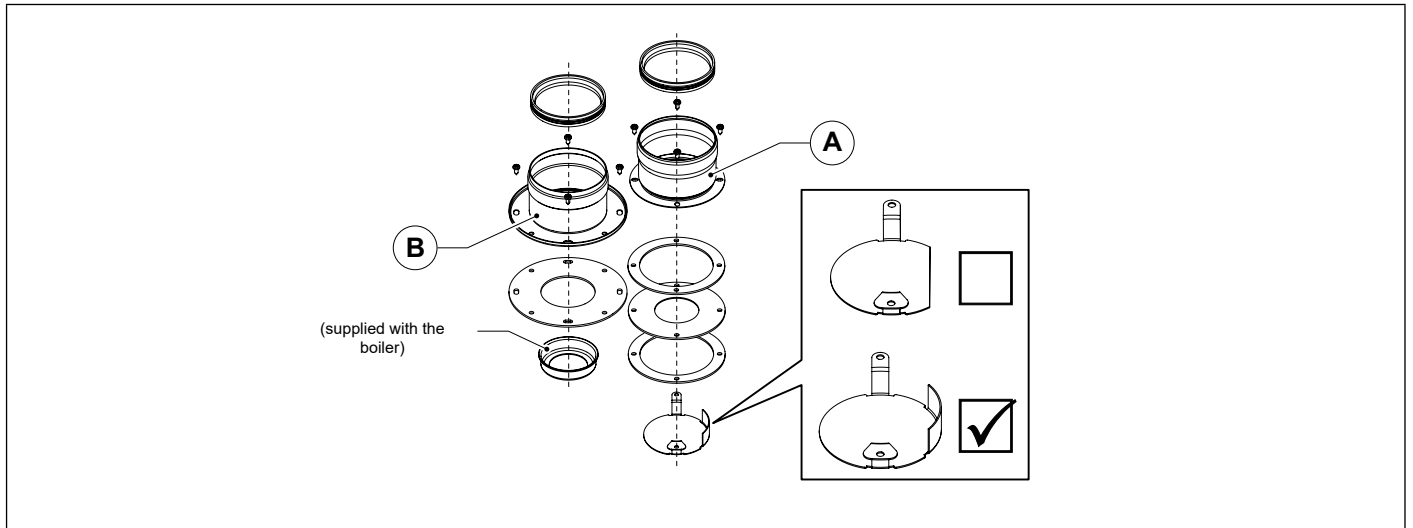

Fig. 21 OSDOPPIA13
- Install the specific air deflector (see Fig. 21 OSDOPPIA13).